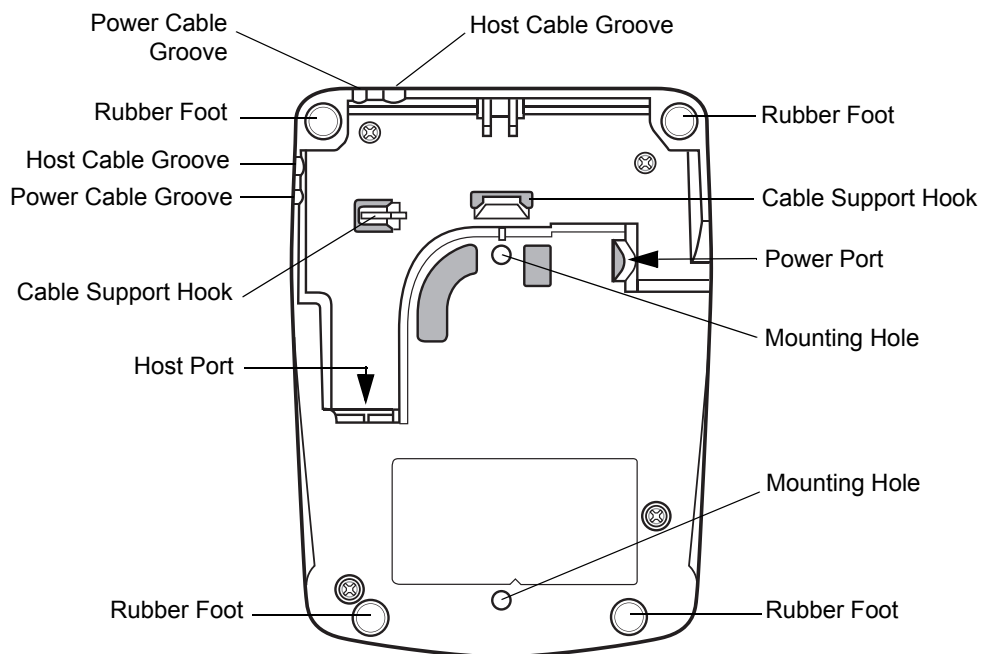

Figure 1-6 CR0078-P Cradle Back View
5. Thread the interface cable over the cable support hook (see Figure 1-6 on page 1-6) and run the host and power cables into their respective cable grooves.